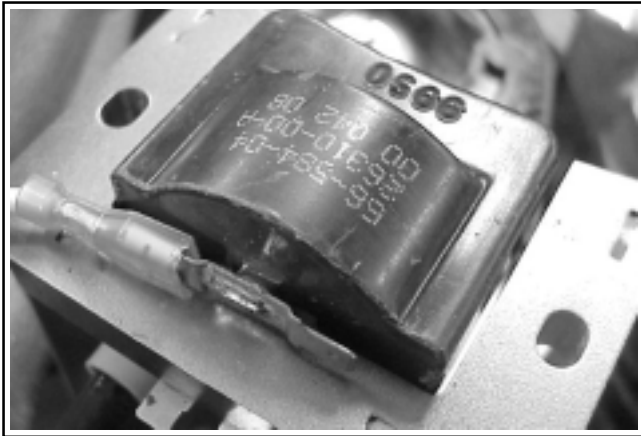

Figure 11-82. Ignition Module Kill Lead Mounting #2 Side.
2. Route the white kill leads from the wiring harness and connect them to the “kill” tabs of the ignition modules. See Figures 11-82 and 11-83.